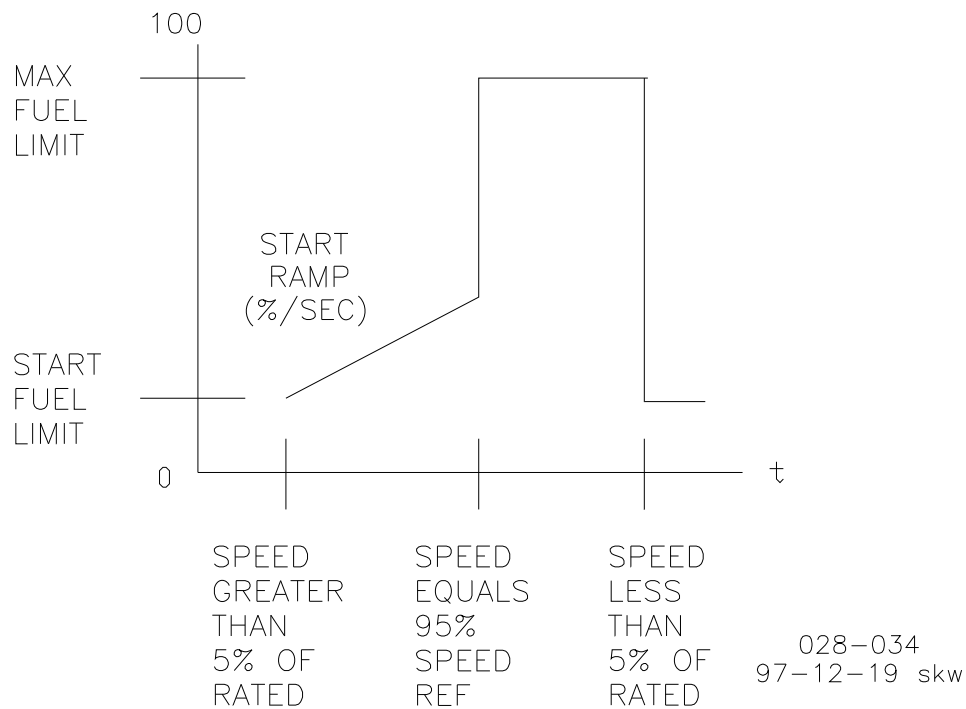

Figure 3-6. Start Limit Function
1. **START FUEL LIMIT** limits the percent fuel demand when the engine is started. The limit is usually set at the fuel level required to start the engine. The limiter is disabled when the engine speed exceeds 95% of speed reference (see Figure 3-6).